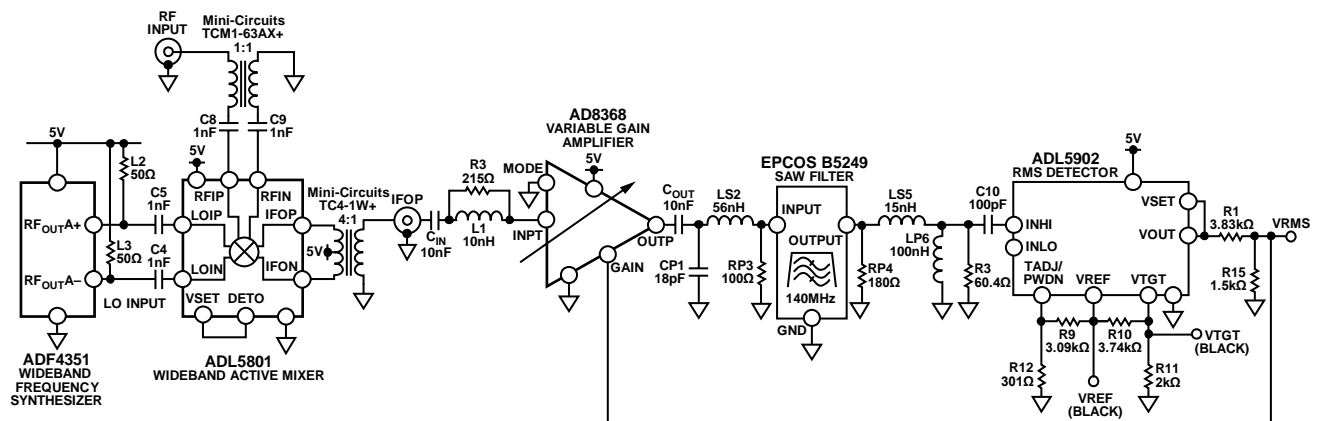

Figure 1. Frequency Selective RF Detector (Simplified Schematic; All Connections and Decoupling Not Shown)
This circuit is a frequency selective, radio frequency (RF) detector that offers 90 dB of detection range from 35 MHz to 4.4 GHz. Unlike a standalone detector that does not discriminate between signals in the frequency spectrum, this circuit has the ability to focus on a narrow band of frequencies, providing enhanced performance over the specified range. The detector circuit is rms responding and stable vs. temperature and frequency, making it an attractive solution for applications that require precise frequency, selective RF power measurement. The circuit also demonstrates strong immunity to unwanted blockers. Figure 1 shows a simplified schematic of the circuit.
However, this range extension limits operation at the pass-band frequency range of the filter. Coupling the CN-0340 circuit with a wideband frequency translation network makes the combined circuit frequency-selective. In the circuit shown in Figure 1, the ADL5801 mixer is paired with the ADF4351 frequency synthesizer to translate input signals from 35 MHz to 4.4 GHz to 140 MHz, the pass-band frequency of the SAW filter. The Circuit Note CN-0239 describes the glueless broadband mixer and local oscillator interface used in the circuit.